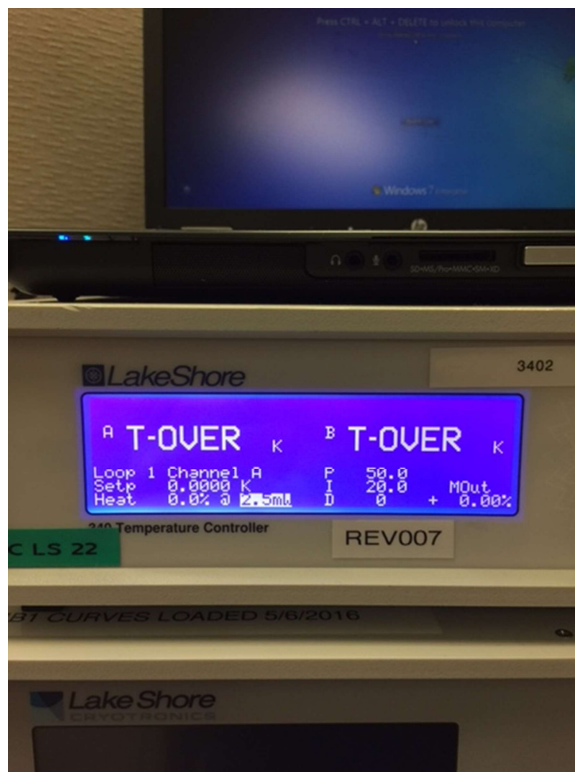

Figure 12
- 2.15 Using selection arrows, select the appropriate heater range (Figure 12).